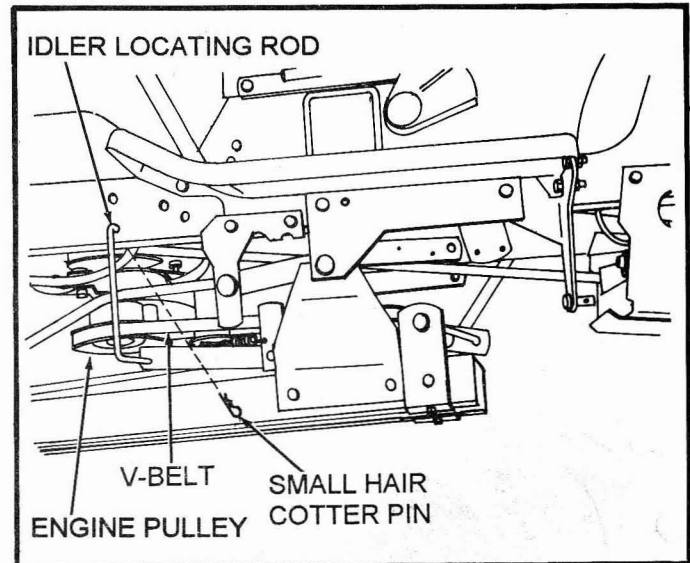

FIG. 18
- Roll V-belt around engine pulley from right side to left side. (See Fig. 18)
- Slide idler locating rod to the left and insert end of idler locating rod into bottom hole in tractor frame. (See Fig. 18)